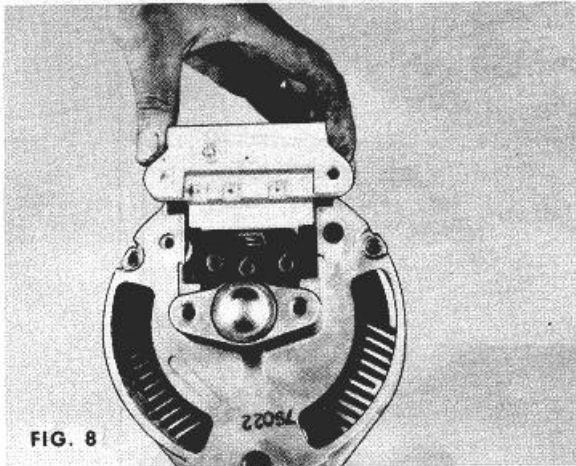

Fig. 8
- Remove regulator housing. Note location of gasket which seals brush compartment. (See Figure 8.)
- Remove terminal stud insulating bushings from housing. There are two bushings in each terminal hole. (See Figure 8.)